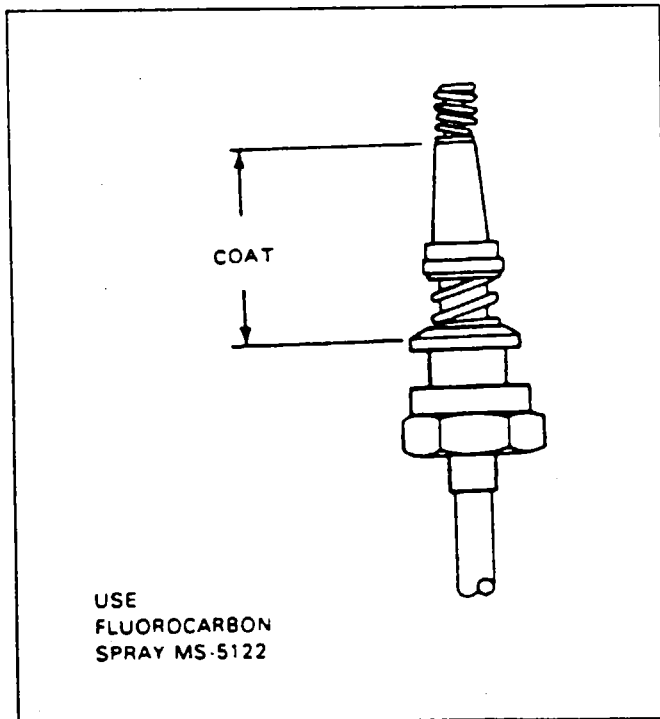
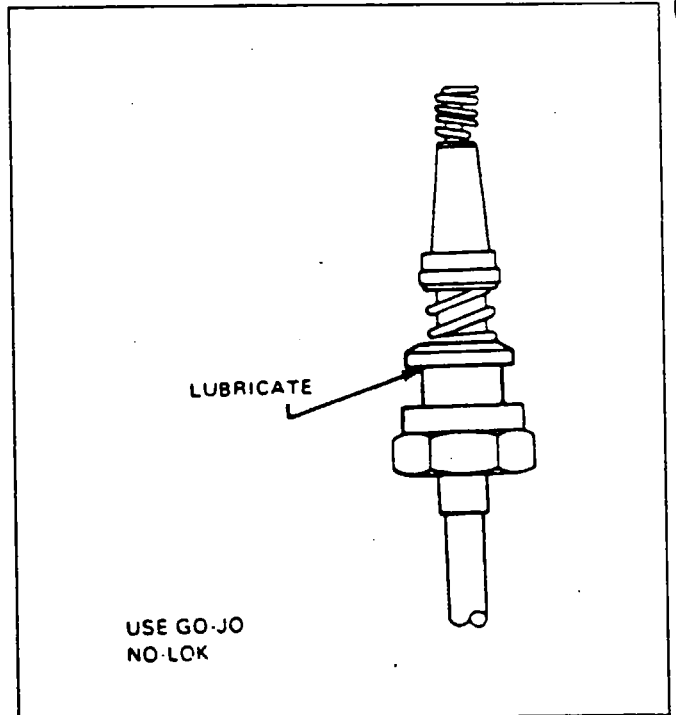

Figure 74-20. Lubricating Sleeve
Figure 74-21. Lubricating Ferrule Shoulder
9. Prior to seating spark plug lead terminal in plug barrel use fluorocarbon spray on spark plug terminal insulating sleeve (refer to Figure 74-20) to prevent heat from sticking sleeve to spark plug barrel. Lightly lubricate the shoulder of ferrule to minimize twisting of ferrule. (Refer to Figure 74-21.) Use GO-JO NO LOK manufactured by Go-Jo Inc., Akron, Ohio 44309.